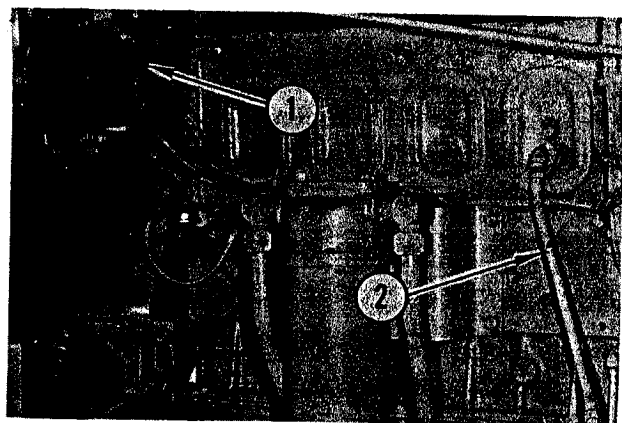

FIGURE 5. GENERATOR DISCONNECT
Refer to Figure 5. Disconnect wires at generator terminals (1) and free from clamps on side of engine. Disconnect air hose (2) leading to engine air box and cover ends to prevent entrance of dirt.